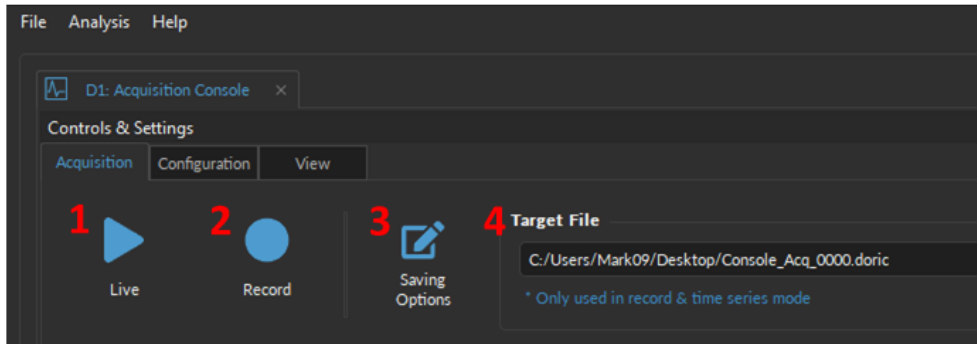
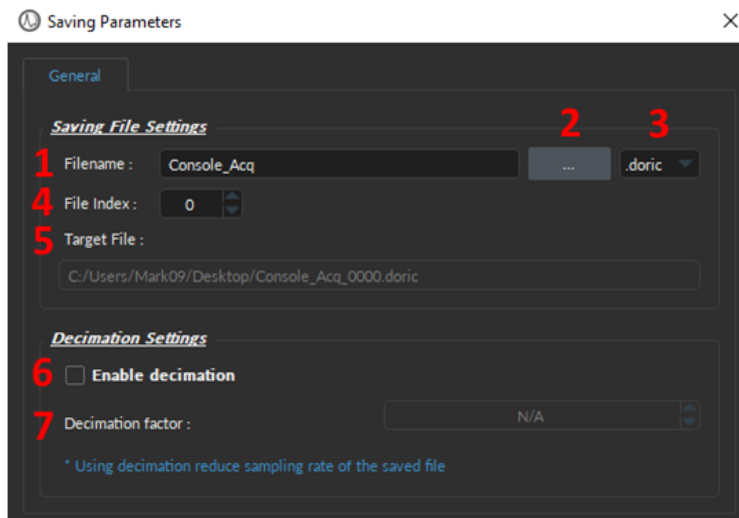

Figure 5.5: Acquisition Tab
Figure 5.6: Saving Menu Window
1. The **Live** button (Fig. 5.5, 1) activates all prepared channels. This mode does not save data, keeping only the most recent 700 000 data points in memory. This mode is not recommended for long or critical measurement sequences. **Live** mode is useful to quickly test the recording software and to ensure that the parameters were properly set.
2. The **Record** button (Fig. 5.5, 2) activates all prepared channels while periodically saving recorded data to the computer. This mode is recommended for long measurement sequences.
3. The **Saving Options** (Fig. 5.5, 3) button opens the **Saving Parameters** window (Fig. 5.6). See section 5.3.1.1 for more details.
4. The **Target File** (Fig. 5.5, 4) displays the path and file name where the data will be stored once the **Record** button is pressed. Select the **Saving Options** button to change the path and file name.
The **Saving Parameter** window is used to define how and where the file is saved. This window is opened by selecting the **Saving Options** button in the Acquisition Tab (Fig. 5.5, 3).
1. The **Filename** text-box lets users specify the name of the data file that will be saved (Fig. 5.6, 1).
2. The **[...]** button opens a File Explorer window where users can select the folder where the data will be saved (Fig. 5.6, 2).
3. The **File format** (Fig. 5.6, 3) is **.doric**, an HDF5-based format that supports metadata (signal, video, images, tables, parameters, etc.). Version 6 of *Doric Neuroscience Studio* is no longer compatible with other file formats (.csv, .excel, or .tiff). We provide Matlab, Python, and Octave codes to read **.doric** files HERE. While not recommended, it is possible to export a **.doric** file into .csv format through the **Doric File Reader** module.
4. The **File Index** (Fig. 5.6, 4) box is used to define the current indexation number used for multiple files saved during the same measurement session. The suffix is incremented automatically when recording multiple files.
5. The **Target File** (Fig. 5.6, 5) displays the absolute path and filename where the data will be saved.
6. The **Enable decimation** checkbox (Fig. 5.6, 6) provides a way to reduce the file sizes. This method conserves one point over a number of data points equal to the **Decimation Factor**.
7. The **Decimation factor** text-box (Fig. 5.6, 7) is used to define the number of points saved.¹
- *Software Command* - The recording will start when the **Record** button is selected in the **Acquisition Tab** (Fig. 5.5, 2). The **Master Start** is, by definition, always **Manual**.
The **Time Series** Window (Fig. 5.9) can be opened by clicking on the **Record** button (Fig. 5.5, 2) when the **Master Trigger** is in **Time Series** mode in the **Global Settings** window (Fig. 5.8, 2). Every **Time series** sequence is automatically saved to the .doric file defined in **Saving Options** (Section 5.3.1.1).